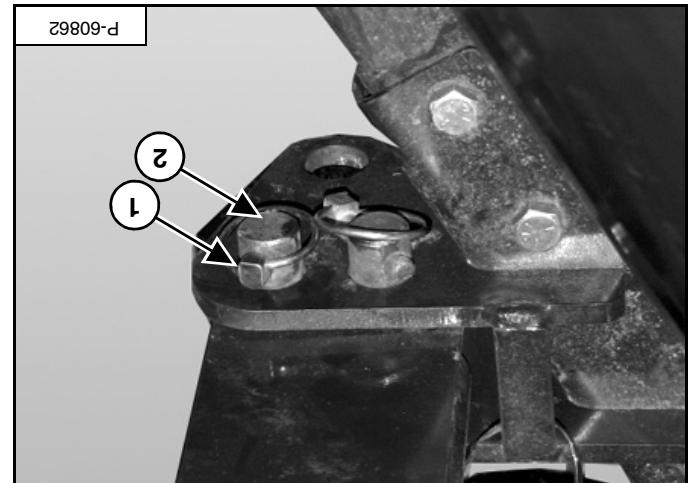

Figure 12
Remove the retaining pin (item 1), then remove the transport pin (item 2) [Figure 12].